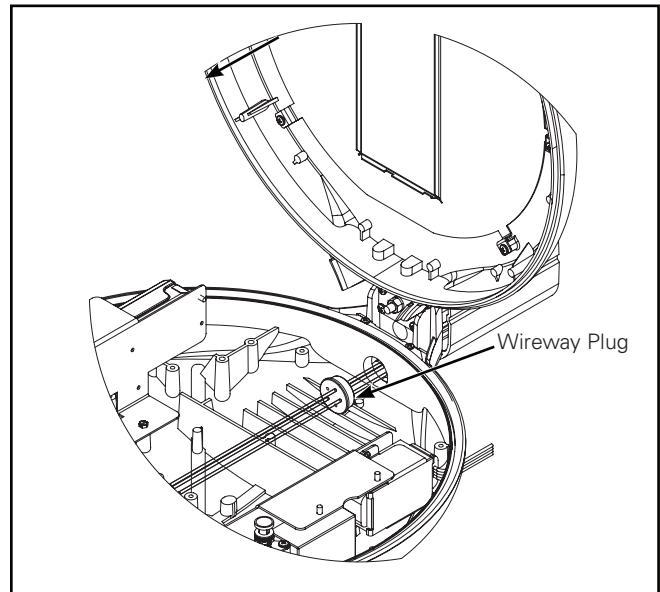

Figure 3A.
### Attaching Housing to Arm (Figure 3A – 3B.)
1. Remove the wire way plug from the housing. Move the fixture leads aside so the threaded rods may be accessed through the fixture housing (Figure 3A.). Feed the fixture wires through the arm. Slide the housing over the threaded rods and secure it with plain washers, lock washers, and hex nuts. Torque hex nuts as follows: Medium Icon (ICM) – 450 in-lbs., Small Icon (ICS) - 130 in-lbs. (Figure 3B.). Re-install the wire way plug into the wire way in the housing.